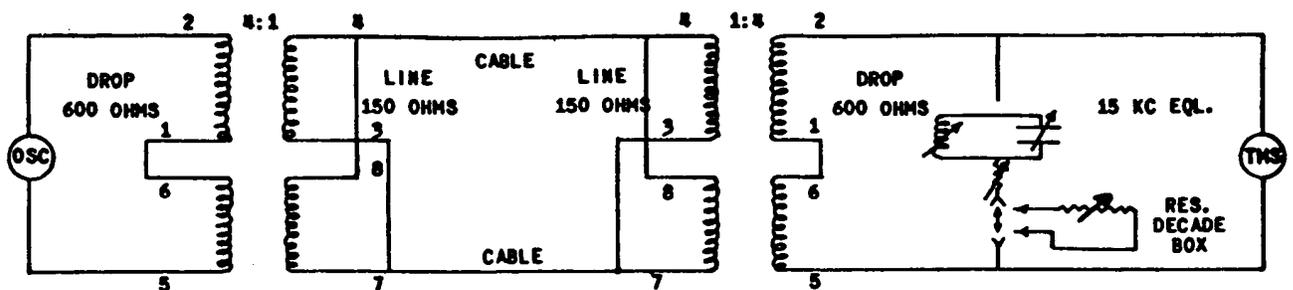

FIGURE 10
11.06 A typical equalization layout with resistance decade box is shown in Figure 10.